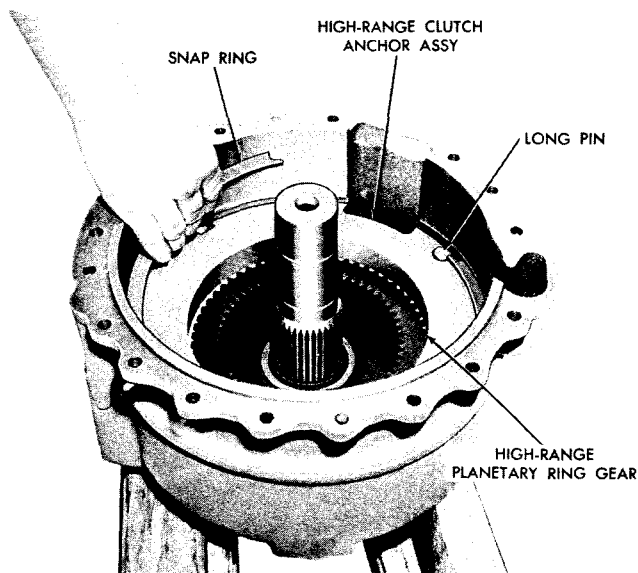

Fig. 7-28. Installing clutch anchor snapping (-3 overdrive model)
(8) Install the heavy internal snapping to retain the high-range clutch anchor assembly (fig. 7-28). Note the relation of the ends of the snapping to the two long pins extending through the anchor.
(6) Install the heavy internal snapping which retains the low-range clutch anchor assembly. Note the relation of the ends of the snapping to the two anchor pins which extend slightly above the anchor surface (fig. 7-28).